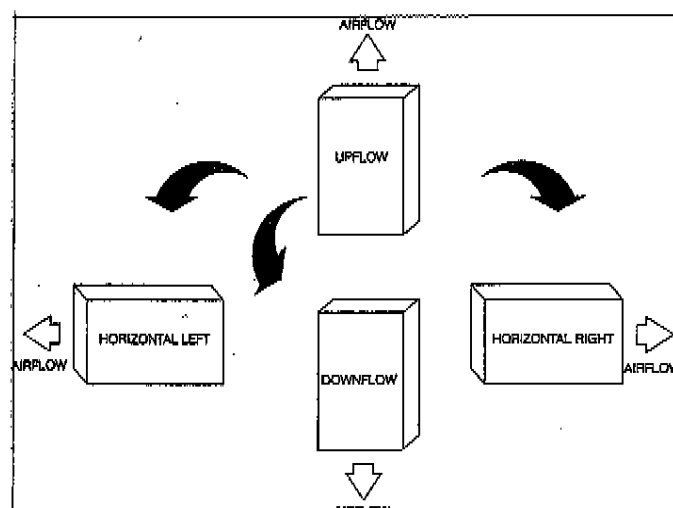
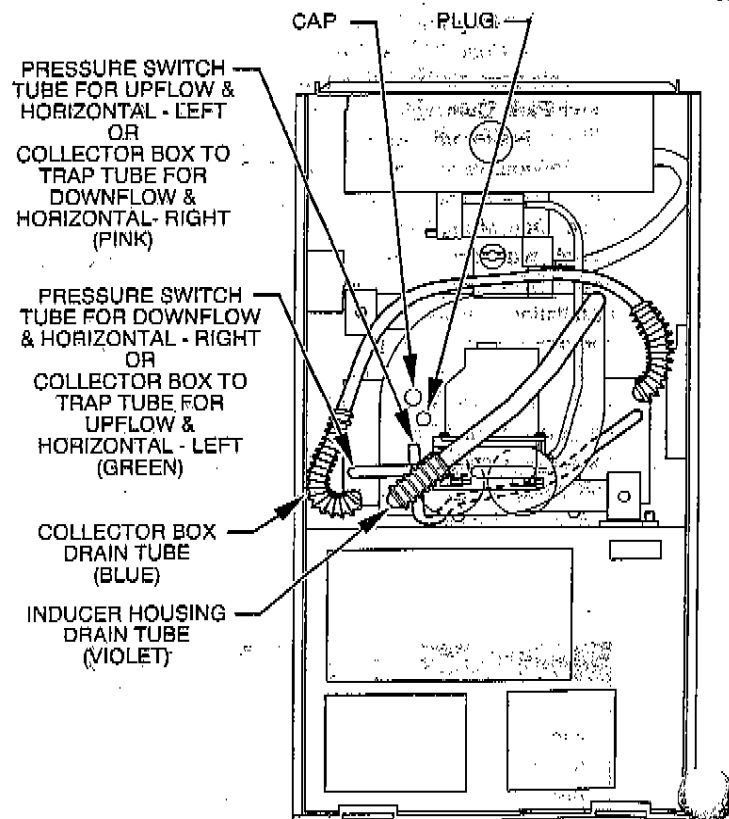

Fig. 1—Multipoise Orientations
Fig. 4—Factory Shipped Tube Arrangement
These furnaces are shipped in the UPFLOW orientation and can be used in UPFLOW, DOWNFLOW, HORIZONTAL RIGHT, or HORIZONTAL LEFT (supply airflow direction) applications with minor modifications as shown in Fig. 1. See details under Section 1—Applications.
These furnaces are shipped in the UPFLOW position. Some assembly and modifications are required for furnaces installed in any of the 4 applications shown in Fig. 1. All drain and pressure tubes are connected as shown in Fig. 4. Some assembly and modifications are required. See appropriate application instructions for these procedures.
- Remove collector box tube plug from inducer housing. (See Fig. 4 for factory shipped location.) Insert plug in open end of tube and gently push center of plug into tube until tube is flush with shoulder on plug.
- Remove cap and clamp from inducer housing. See Fig. 4 for factory shipped location. Install on UPPER inducer housing drain connection to prevent leakage.
The collector box to condensate trap relief port tube (green) is shipped from the factory attached to the inducer housing post as shown in Fig. 4. This tube **MUST** be relocated to the condensate trap.
- Remove collector box tube plug from inducer housing. (See Fig. 4 for factory-shipped location.) Insert plug in open end of tube and gently push center of plug into tube until tube is flush with shoulder on plug.
- Remove cap and clamp from inducer housing (See Fig. 4 for factory shipped location) and install on UPPER inducer housing drain connection to prevent leakage.
The collector box to condensate trap relief port tube (pink) is shipped from the factory attached to the pressure switch as shown in Fig. 4. This tube **MUST** be relocated to the condensate trap.
The pressure switch tube (green) is shipped from the factory assembled as shown in Fig. 4 and **REQUIRES** modifications. See Fig. 7 for proper location of pressure switch tubing connections.
- Remove collector box tube plug from inducer housing. See Fig. 4 for factory shipped location. Insert plug in open end of tube and gently push center of plug into tube until tube is flush with shoulder on plug.